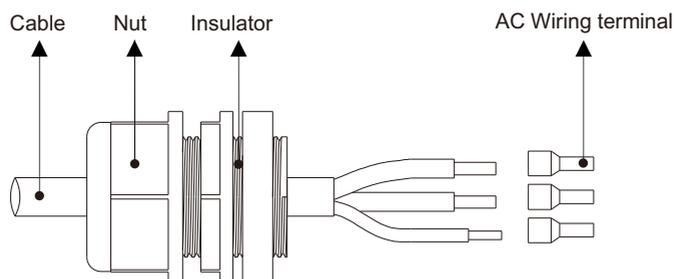

Figure 16
- (1) Measure the voltage and frequency of the connection access point, and make sure it is in conformity with the specification of grid connection.
- (2) The PE line (ground wire) of the inverter must be reliably earthed so as to ensure the impedance between the neutral line and ground wire is less than $10\ \Omega$.
- (3) Disconnect the AC circuit breaker between the inverter and the power grid.
- (4) Loosen the nut.
- (5) Disassemble the single-aperture sealing ring.
- (6) Pass the cable successively through the nut, single-aperture sealing ring, AC protective cover and AC wiring terminal (as shown in Figure 16)